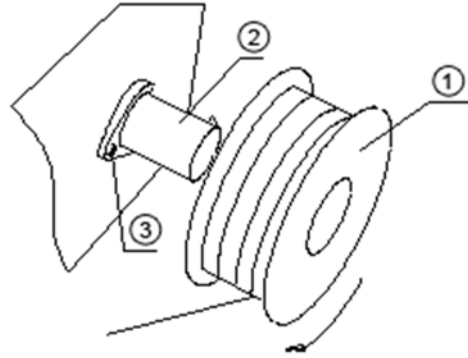
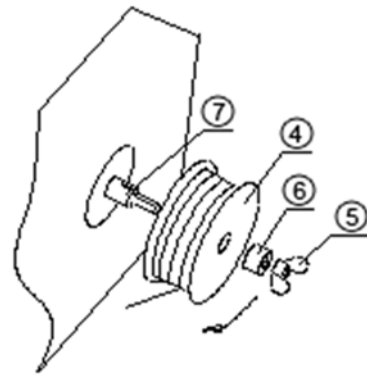
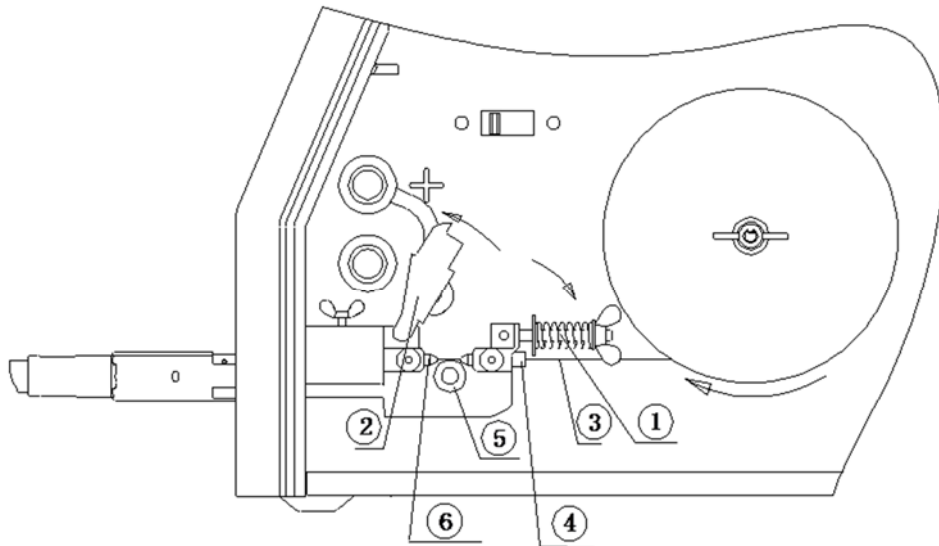

Figure 8
Figure 9
Figure 10
(See Figure 8, Figure 9, Figure 10)
(See Figure 8)
(See Figure 8, Figure 9)
1. Remove the 2" (50mm) diameter spindle adapter ② (See Figure 8) by first removing the wing nut ⑤.
2. Remove the plastic spacer ⑥.
3. Mount 4" (100mm) diameter wire spool directly onto 5/8" (16mm) shaft ⑦.
4. Reinstall the plastic spacer ⑥ and wing nut ⑤.
(See Figure 10)